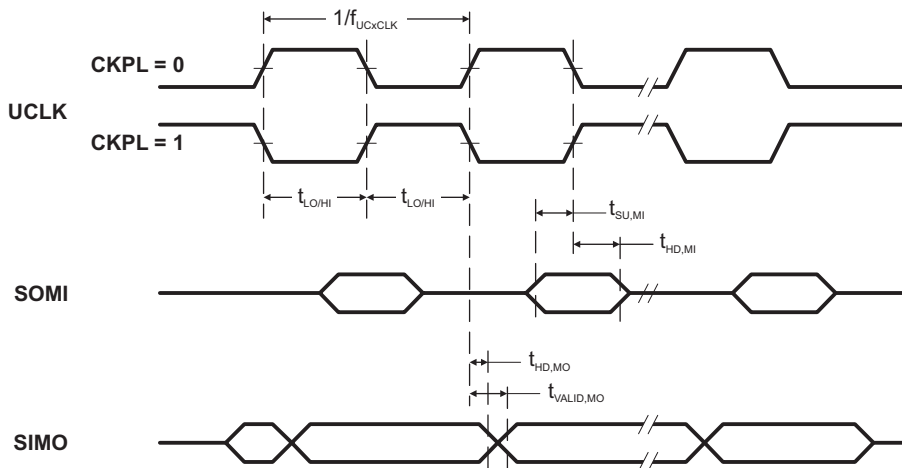
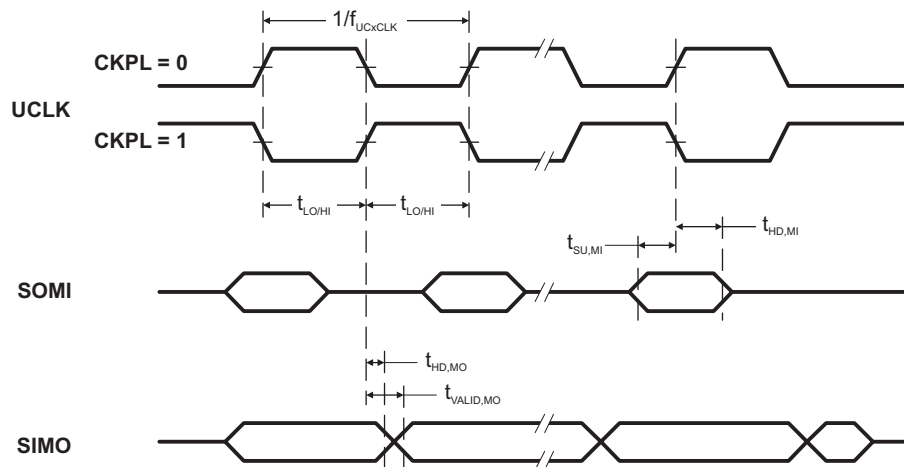

Figure 11. SPI Master Mode, CKPH = 0
Figure 12. SPI Master Mode, CKPH = 1
over recommended ranges of supply voltage and operating free-air temperature (unless otherwise noted) (see Note ⁽¹⁾, Figure 11 and Figure 12)
- (1) f_{UCxCLK} = 1/2t_{LO/HI} with t_{LO/HI} ≥ max(t_{VALID,MO}(USCI) + t_{SU,SI}(Slave), t_{SU,MI}(USCI) + t_{VALID,SO}(Slave)). For the slave's parameters t_{SU,SI}(Slave) and t_{VALID,SO}(Slave) refer to the SPI parameters of the attached slave.
- (2) Specifies the time to drive the next valid data to the SIMO output after the output changing UCLK clock edge. Refer to the timing diagrams in Figure 11 and Figure 12.
- (3) Specifies how long data on the SIMO output is valid after the output changing UCLK clock edge. Negative values indicate that the data on the SIMO output can become invalid before the output changing clock edge observed on UCLK. Refer to the timing diagrams in Figure 11 and Figure 12.
(2) Specifies the time to drive the next valid data to the SOMI output after the output changing UCLK clock edge. Refer to the timing diagrams in Figure 11 and Figure 12.
(3) Specifies how long data on the SOMI output is valid after the output changing UCLK clock edge. Refer to the timing diagrams in Figure 11 and Figure 12.